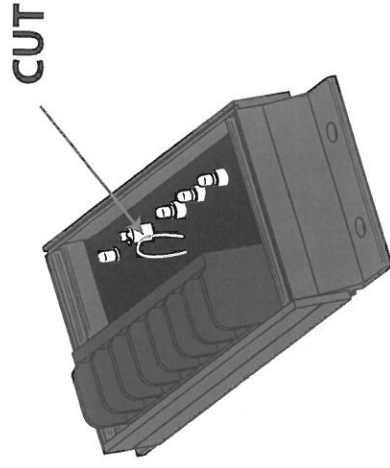

Figure 2d. Cut the Regulation Select wire loop.
3. A loop of wire protrudes from the epoxy. Cut the loop with wire clippers to switch the regulation method to *Slow Switching*. See Figure 2d.